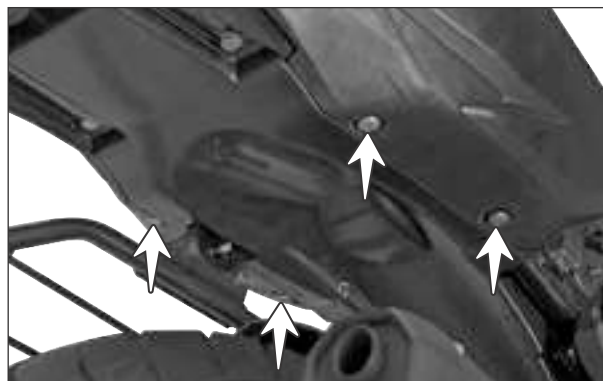

Fig. 2.26
- Remove the CRR pan head screw (M6x16 - 4 nos.) from the mounting of tail cover assembly bottom. (Fig. 2.26)